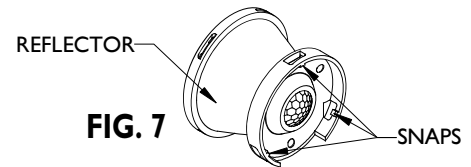

FIG. 7
INSTRUCTIONS FOR INSTALLING REFLECTOR (FIG. 7, 8,, & 9)
1. Orient the REFLECTOR (Sold Separately) as shown in (FIG. 7), so that the SNAP features are aligned with the slots located on the HOLDER.